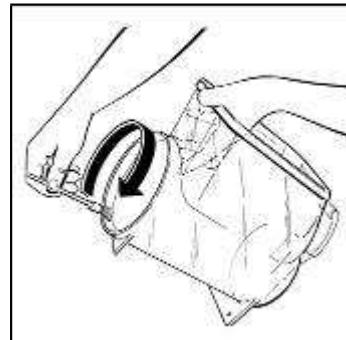

Рис. 37
- Moisten with water the rear of the tank where it meets with the seal to facilitate the reassembling procedures (see Рис.37);